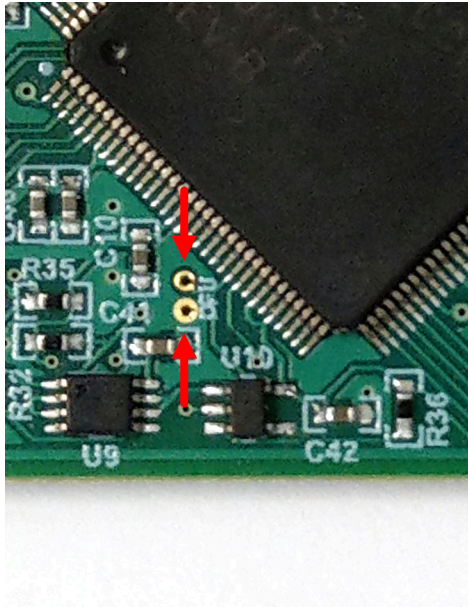

Figure 3-4. Test Points Used to Enter DFU Mode Manually
- Short the two test points near PK1 and PK2 of the header pins (see Figure 3-4) with a pair of tweezers (or wire) while pressing the RESET button.